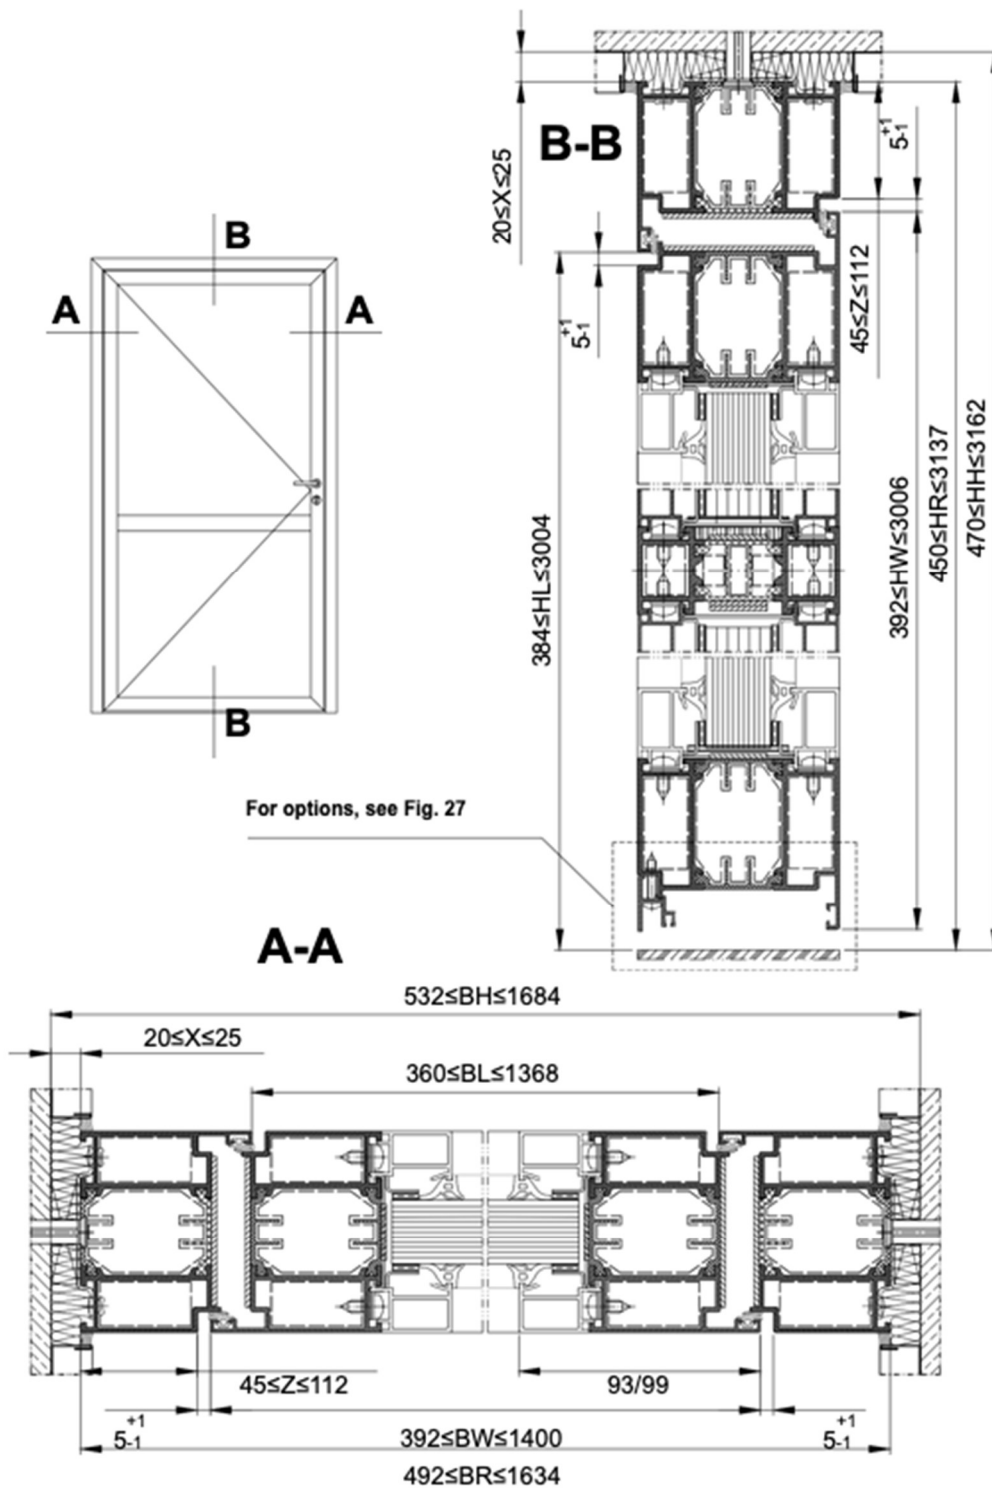

Fig. 12 Dimensional specification of the installation of single door MB-78 EI30 and MB-78 EI60
- Examples of the framed partition wall constructions and of how to attach door or fire wall to them are shown in Fig. 12, minimum wall thickness is 105 mm,